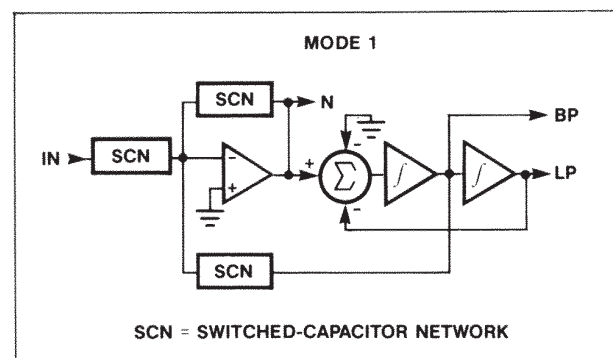

Figure 4. Filter Mode 1: Second-Order Bandpass, Lowpass and Notch
Figures 4 through 8 show symbolic representations of the MAX263/64 filter modes. Only one second-order section is shown in each case, however the  $f_0$ , Q, and Mode select inputs are common to both halves of the IC. The  $f_0$ ,  $f_N$  (notch), Q, and various output gains for each mode are shown in Table 4.
**MODE 1** (Figure 4) is useful when implementing all-pole lowpass and bandpass filters such as Butterworth, Chebyshev, Bessel, etc. It can also be used for notch filters, but only second-order notches because the relative pole and zero locations are fixed. Higher order notch filters require more latitude in  $f_0$  and  $f_N$ , which is why they are more easily implemented with Mode 3A.
Mode 1, along with Mode 4, supports the highest clock frequencies (see Table 1) because the input summing amplifier is outside the filter's resonant loop (Figure 4). The gain of the lowpass and notch outputs is 1, while the bandpass gain at the center frequency is  $Q$ . For bandpass gains other than  $Q$ , the filter input or output can be scaled by a resistive divider or op amp. In multiple feedback filters, the gain is set by the feedback resistors.